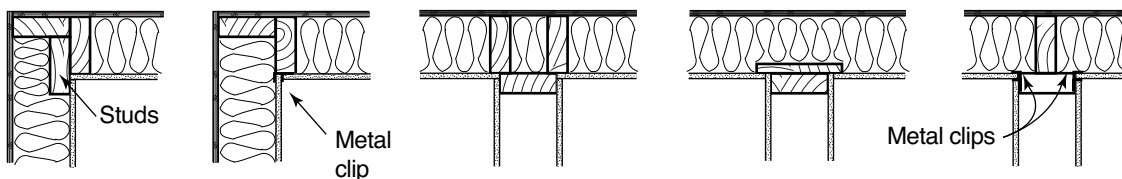

FIGURE 17
- ◆ Reduce the number of framing members used in corner and partition intersection details. Use nailing clips to support drywall or exterior sheet materials (see Figure 17).